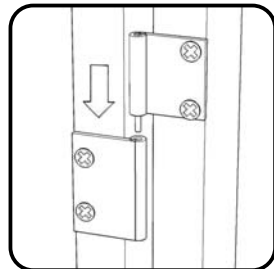

Figure 6
Attach Doors (L) and (M) by sliding the door lift hinges into the side panels lift hinges. (See Figure 6)